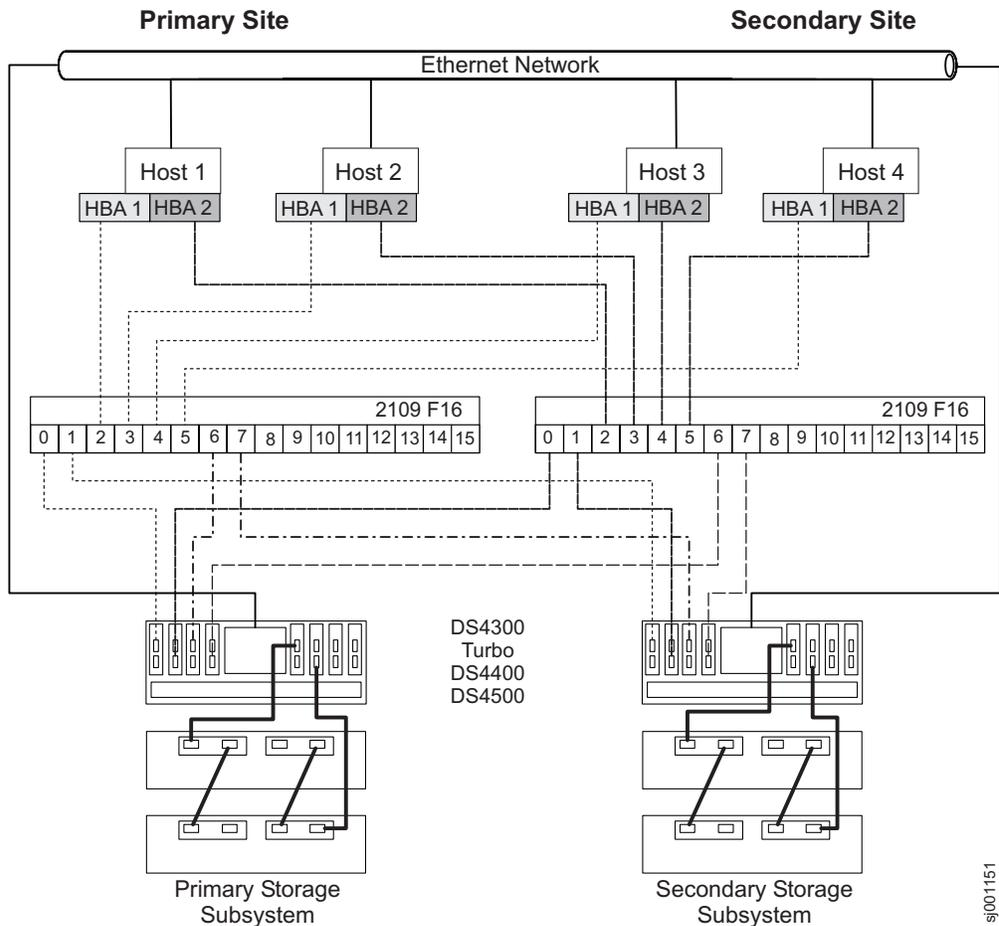

Figure 41. Intra-site configuration
Figure 41 on page 126 shows the Intra-site configuration after installation is complete.
Important: The Fibre Channel switches in Figure 41 contain 16 ports each, which leaves many unused ports per switch. If you are performing switch zoning using the Fibre Channel host port number, instead of the WWNN of the SAN fabric logged-in ports, do not include Fibre Channel switch ports with no Fibre Channel connections in the zone definition. If you include these unused ports in your zones, unauthorized access to the SAN might result.
Note: Figure 41 illustrates that there is no relationship between Zone A and Zone B in Switch 2 and Zone 1 and Zone 2 in Switch 1.
- Refer to Figure 41 on page 126 as you complete the steps in this procedure.